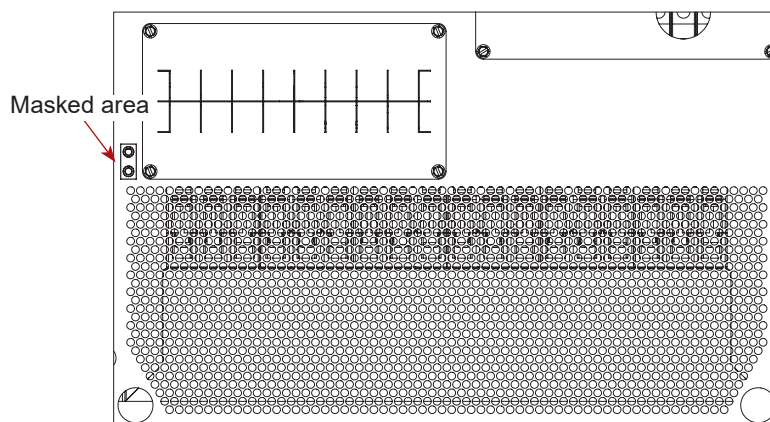

Figure 23 — Top Exterior Frame Ground Connection
1. Locate the masked area on the top of the system. See Figure 23.